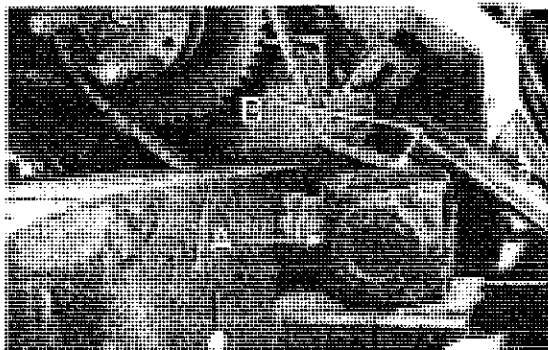

Figure 61. Wheel Elevator Gear Box Oil Level
**M. - Slip Clutches -** Lubricate the paddle shaft slip clutch (shown below) and the wheel elevator slip clutch (upper left of Figure 61 on the previous page) with one pump every 500 hours or each season.